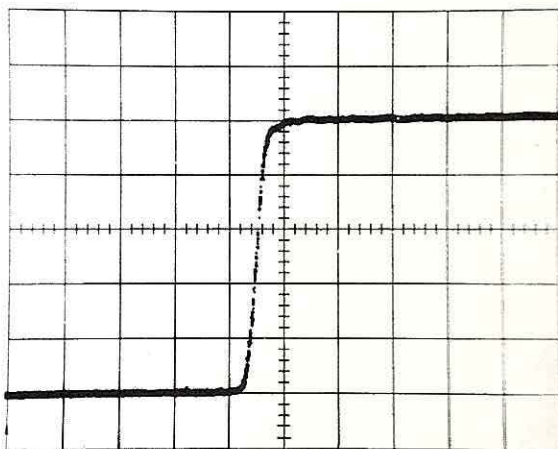

Fig. 7-9. 284 Step Signal. Variable VOLTS/DIV Set for 5 divisions.
k. Set the red CH 1 VOLTS/DIV variable CAL control so the amplitude of the step is precisely five divisions (see Fig. 7-9).